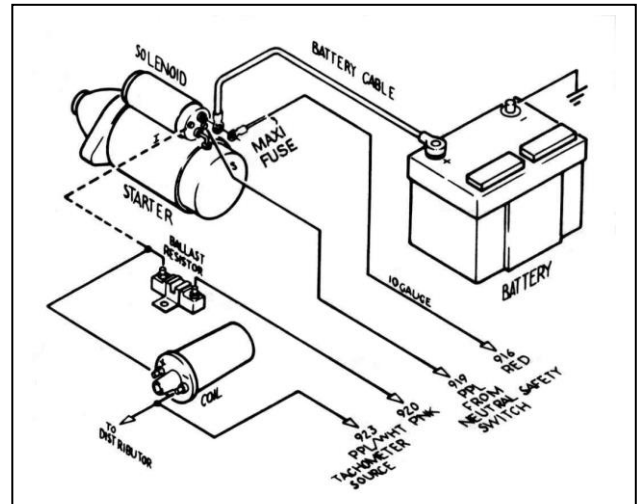

Figure 7-6A GM Ignition (Start-Run) System
7.6 GM Ignition (Start/Run) System. See Figure 7-6A.
7.6.6 A 14-gauge wire connected from the Starter Solenoid Ignition (I) terminal to the ignition coil side of the Ballast Resistor is optional. This wire (the dashed line in **Figure 7-6A**) serves as a ballast resistor BYPASS during engine starting. However, if the starter solenoid shorts out, which is not unusual, the engine will stop running and will not restart as long as this wire is connected. You may therefore choose to omit it. If you are not using a Ballast Resistor, leave the Starter Solenoid Ignition (I) terminal unconnected and do not install the bypass wire.